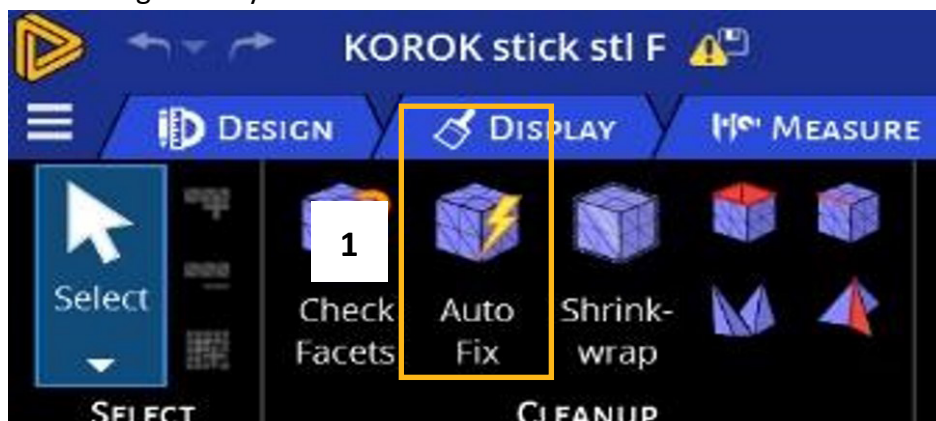
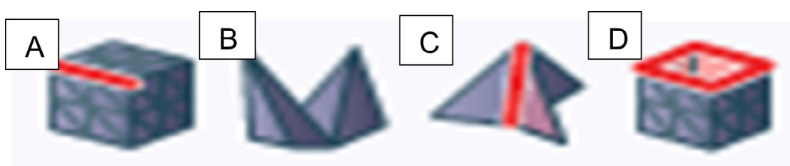

Figure 8: Tool to reduce these errors in scan geometry (Auto Fix)
Figure 9: Various geometrics for Auto Fix
1. To automatically fix errors within the geometry, select “Auto Fix” (Fig. 8 (1)). The geometry options for Auto Fix can be seen in Figure 9.